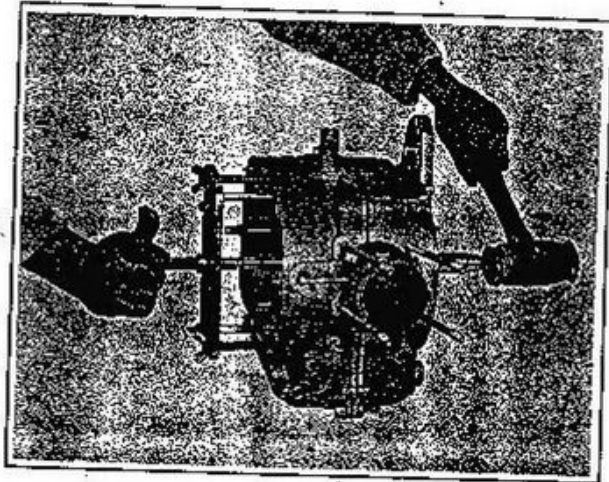

Figure 3E-78. Separating Crankcase (1973 Model)
18. Remove pinion shaft bearing lock ring (10, Figure 3E-80) and press ball bearing (11, Figure 3E-80) from right crankcase.